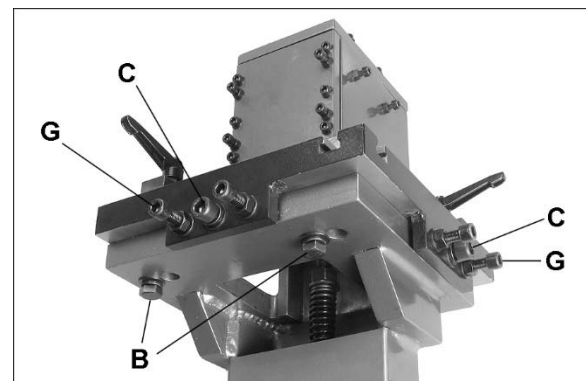

Figure 6-2
2. Remove three (3) hex cap bolts with washers (B, Figure 6-2) from beneath table; two at front and one at back.
3. Remove two (2) socket head screws (C, Figure 6-2). Remove table.
5. Insert bolts/washers (B, Figure 6-2) and screws/washers (C, Figure 6-2). Hand tighten only at this time.
- Slightly loosen screws (C, Figure 6-2).
- Loosen nuts on four adjustment screws (G, Figure 6-2) and turn adjustment screws as needed to adjust gap between lower and upper blades on both sides of table. Feeler gauge should be snug but still able to be smoothly removed.
- NOTE: If a feeler gauge is not available, make incremental adjustments according to step #6, then tighten the screws (C), and make test cuts. Continue to adjust as needed until notcher is cutting properly.
- Tighten nuts on the adjustment screws (G, Figure 6-2) to secure setting.
- Tighten center screws (C, Figure 6-2).
- Reinstall blade guard (A, Figure 6-2).